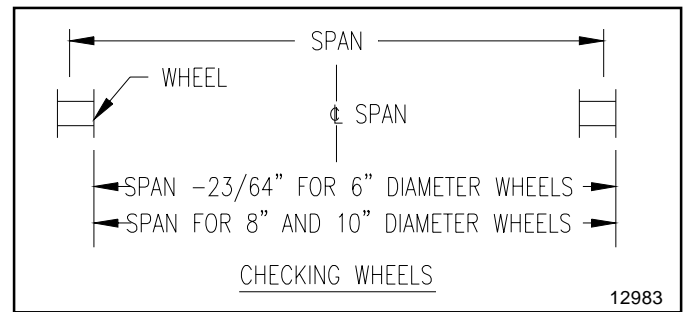

Figure 4.
3. To check the distance between the trucks, push all truck wheels toward the center of the span. The distance from the outside of the wheel on one side of the span to the inside of the wheel on the other side of the span should equal the span length for the 8" and 10" diameter wheels. For the 6" diameter wheels this dimension should be the span length minus $\frac{23}{64}"$. See Figure 4. The tolerance on these distances is $\pm 1/32"$.